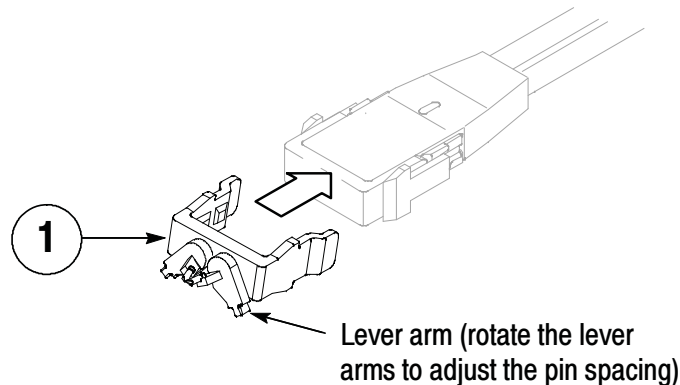

Figure 14: Variable Spacing Tip-Clip assembly
1. Attach the Variable Spacing Tip-Clip assembly to the probe tip (see Figure 14 on page 20). Although the Tip-Clip is insensitive to mechanical attachment polarity, the probe measurement polarity will be affected by the polarity of the probe input contacts connected to the Variable Spacing Tip-Clip.